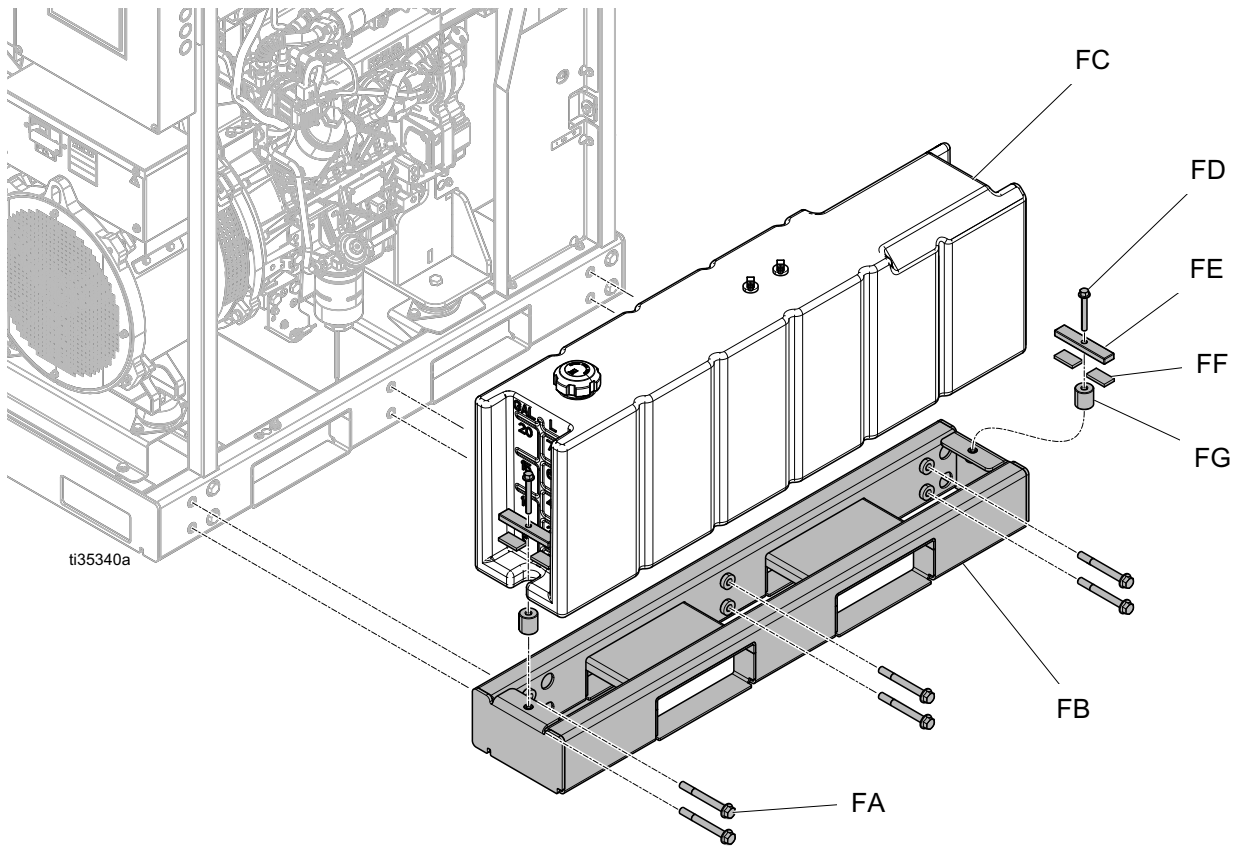

FIG. 13: Install Fuel Tank and Fuel Tank Pallet Extension
1. Apply the supplied anaerobic adhesive to the six fasteners (FA).
2. Attach the fuel tank pallet (FB) to the Integrated PowerStation pallet using six fasteners (FA).
3. Secure the fuel tank (FC) onto the fuel tank pallet using the two fasteners (FD), brackets (FE), gasket material (FF), and spacers (FG). See FIG. 13.